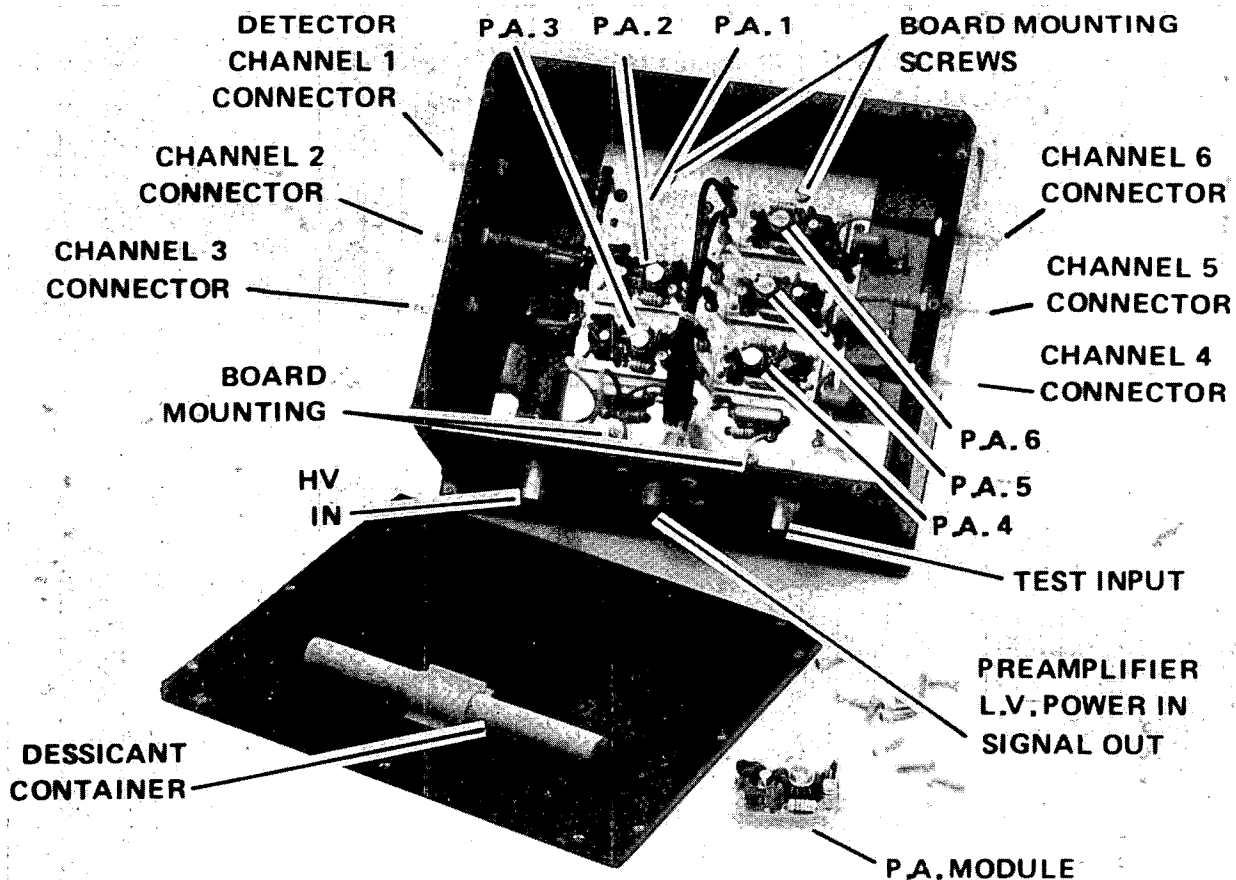

Fig. 4.
1. Remove top cover from HP-100 (preampfier box) (Fig. 4).
4. Check main board mounting screws and box connectors (Fig. 4) for looseness; check to see that preamplifiers are seated firmly.